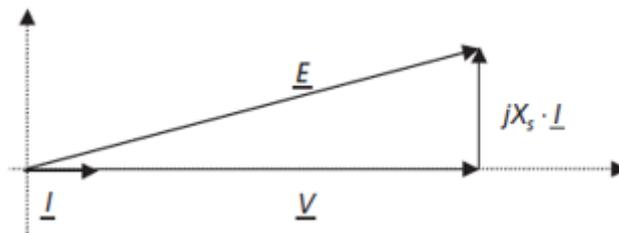

Figure 2
5) If we consider a set of unit power factor loads, that are three-phase balanced and star wired to the alternator, the Fresnel diagram of the magnitudes of the equivalent single-phase circuit is as shown in figure 2: